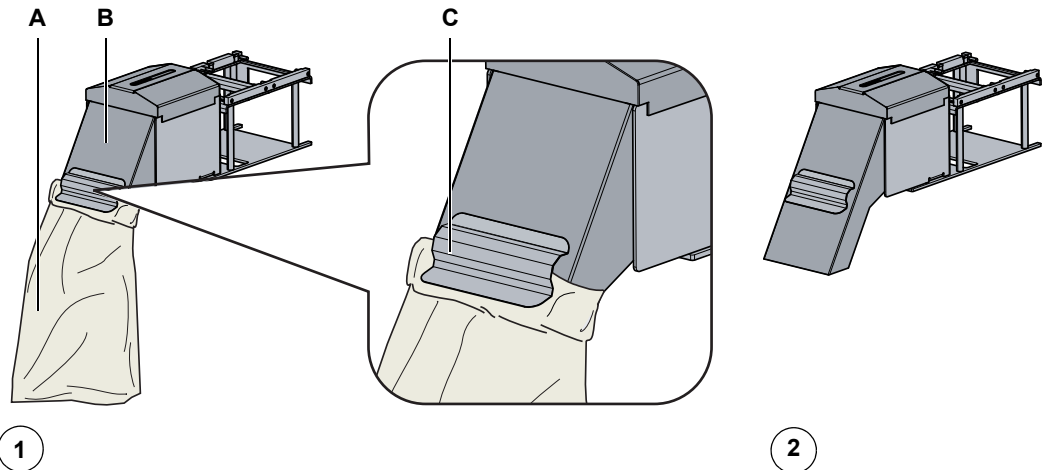

Fig. 7-10 Changing the waste bag
- 1 Lift the fastener (C) to remove the waste bag (A) Fig. 7-10 , 7-21.
- 2 Dispose the waste bag (A) appropriately Fig. 7-10 , 7-21.
- 3 Install and secure, a new DiTi waste bag (A) onto the DiTi waste slide (B), with the fastener (D) Fig. 7-10 , 7-21.